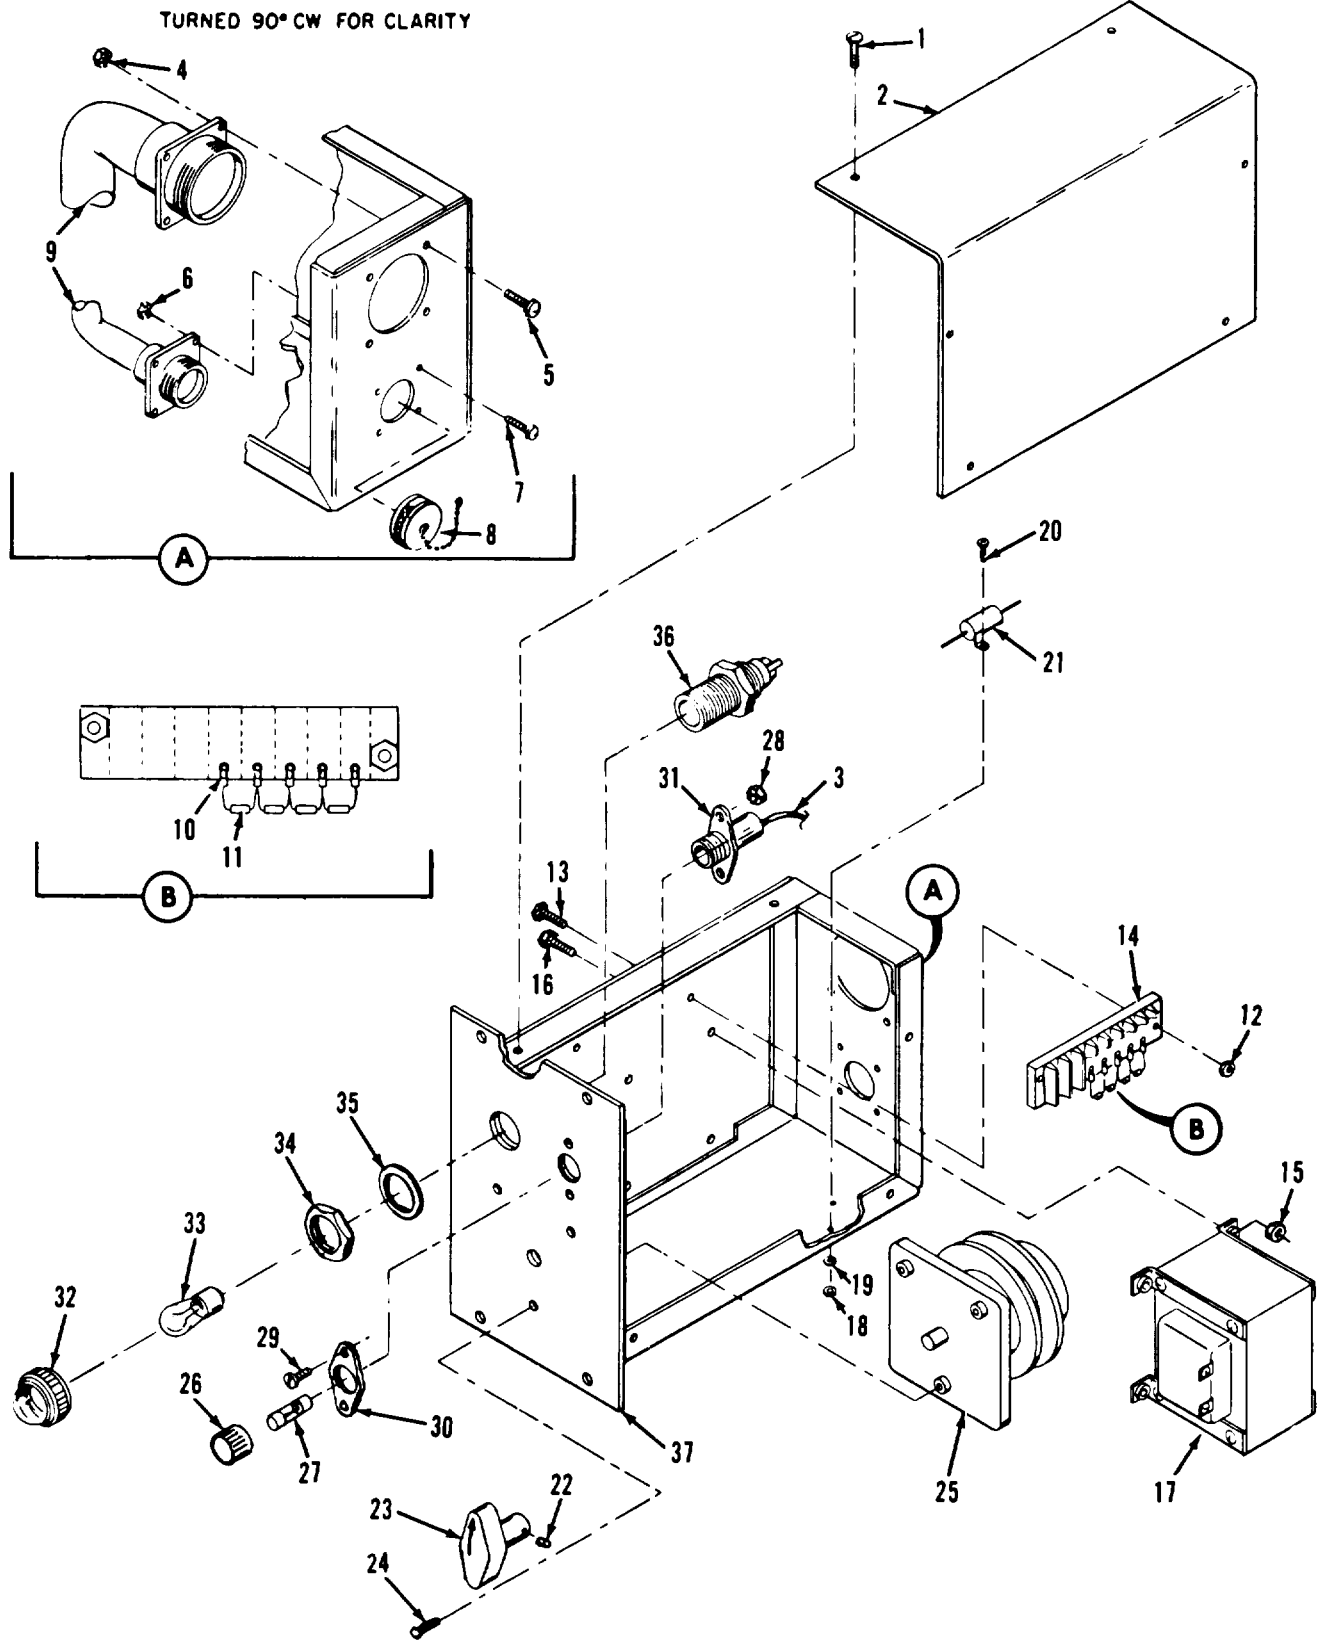

Figure 12-2. Electric winterization kit control box,
Refer to figure 12-2 and disassemble electric winterization kit control box in the order of index numbers assigned. Pay particular attention to the following:
Legend to figure 12-2:
h. Inspect harness (3, figure 12-2) wires for continuity, refer to figure 12-3.
i. Inspect harness (9, figure 12-2) connectors for bent, loose, or missing pins. Check each harness wire for continuity from wire ends to connector pins. Check connector pins for shorts to case and surrounding pins. Refer to figure 12-4.
b. Repair or rebuild defective harness (3, figure 12-2) as illustrated in figure 12-3.
c. Repair or rebuild defective harness (9, figure 12-2) as illustrated in figure 12-4.